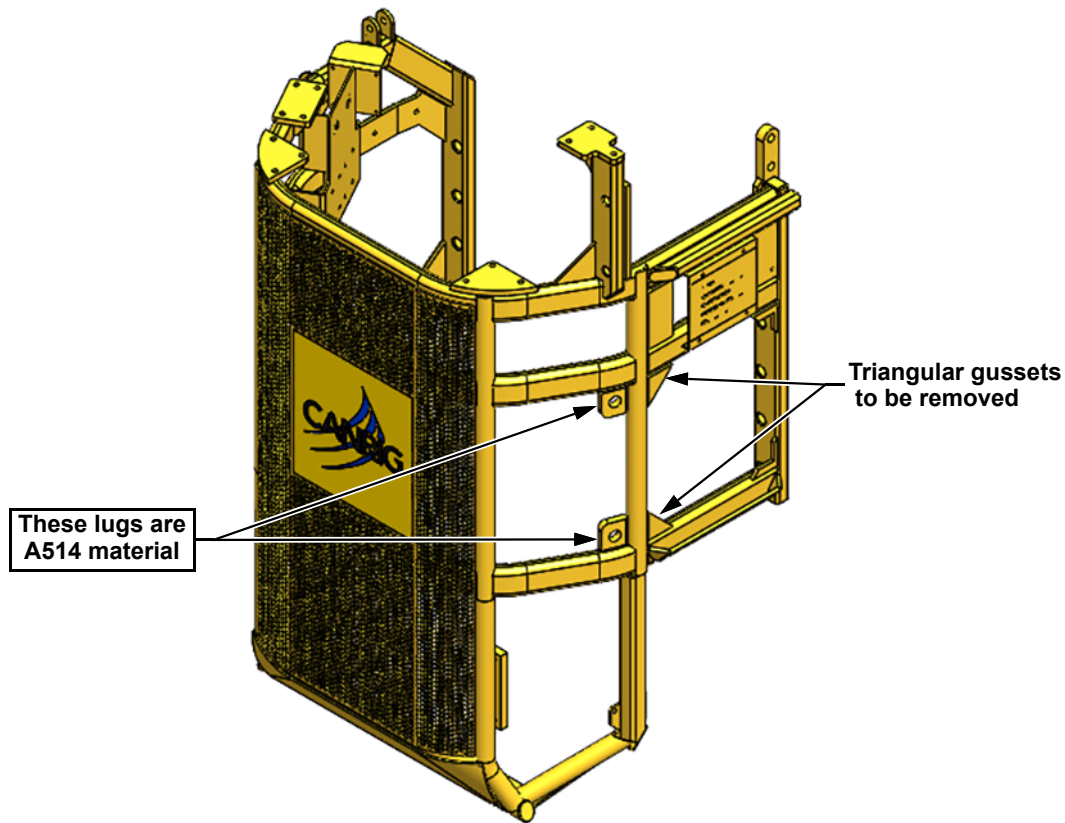

Figure 10: Triangular gussets to be removed.
- If the guard is DT33192 **Rev A, B, or C**, or DT11507-0, DT33250, or DT33238, then the bottom ODS beam will be 4" X 2" HSS with a 4" x 4" x 1/2" triangular gusset (See Figure 10) at its junction with the vertical pipe. In this case, one (1) of plate P/N: DT27200-4 (item 3B) is required.
1. Remove the existing 4" x 4" x 1/2" triangular gussets on the top and bottom ODS as shown in Figure 10.